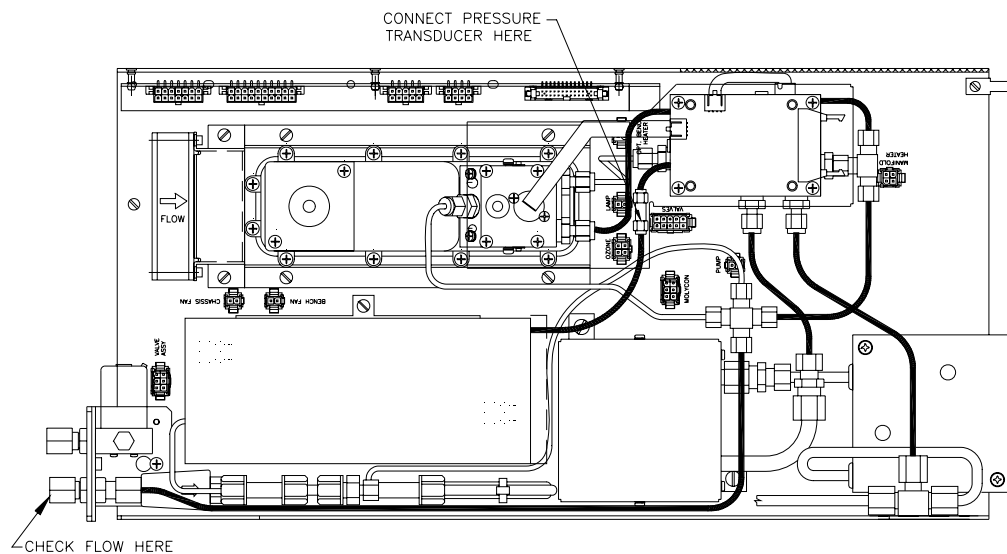

Figure 21. Pressure Calibration (B Series)
5. Disconnect the Teflon line from the O₃ generator to the measurement cell and connect a calibrated pressure transducer to this port on the measurement cell (as shown in Figure 21).